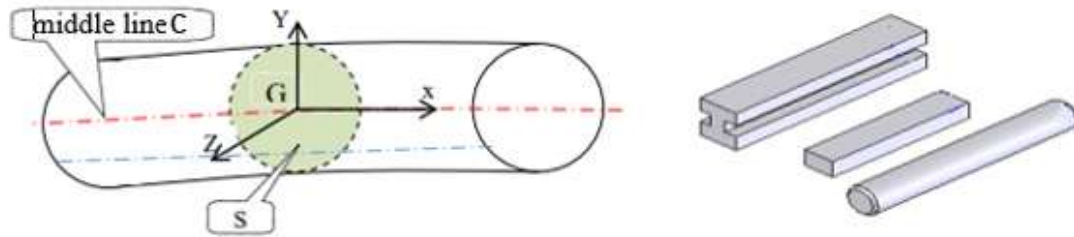

Fig. 1 Examples of beams.
A beam is generally a solid generated by a plane area (S) whose center of gravity (G) describes a curve (C). The plane of the area (S) remains normal to the curve (C), as show in figure 1.